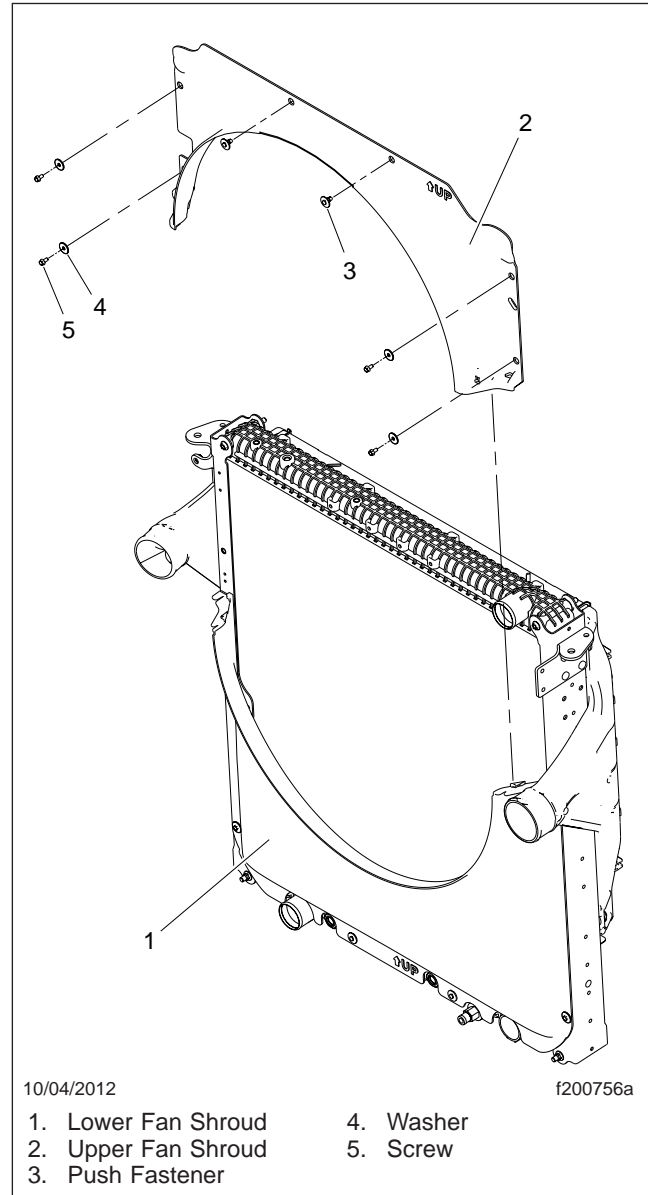

Fig. 9, Fan Shroud Installation
27. Install the new lower fan shroud on the new radiator. See **Fig. 9**.